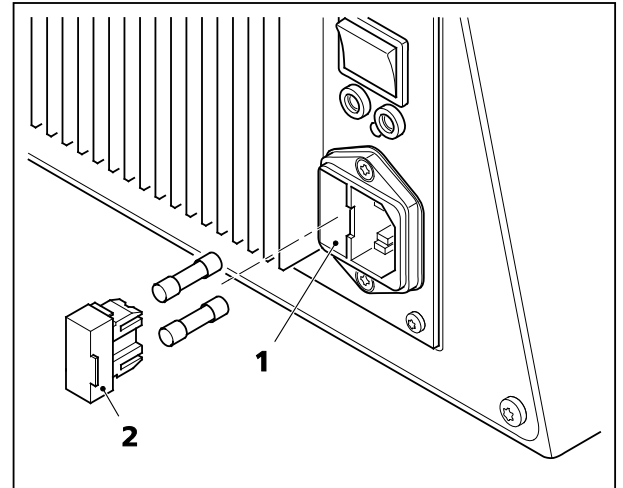

Fig. 164 Changing the fuses in the Axio Observer 3, 3 materials and 5, 5 materials
- Pull out the fuse holder (Fig. 164/2) frontward.
- Reinsert the fuse holder into the fuse compartment (Fig. 164/1) until it clicks into place.